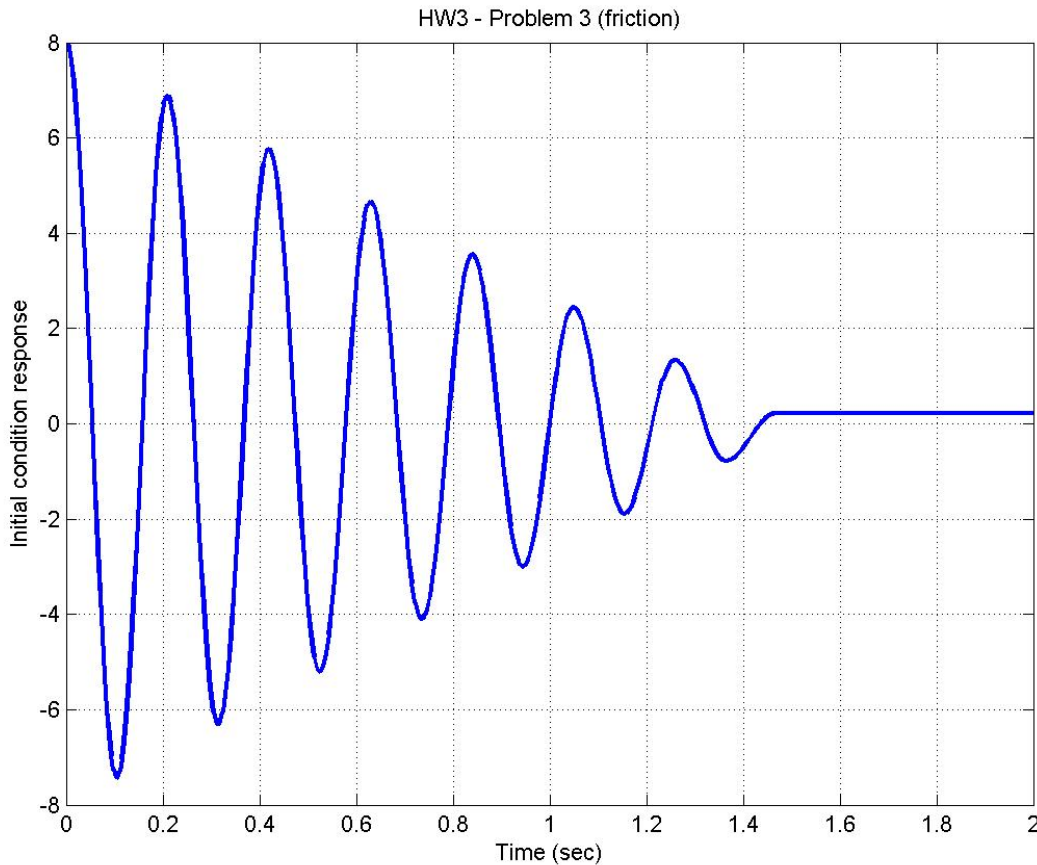

Figure 4b – Step response for a system with Coulomb friction.
b) Figure 4b also shows the step response of a spring-mass system where $m=1\text{kg}$ and $k=900\text{ N/m}$, except here losses are due to nonlinear friction. The equation of motion here is:
c) Note in Figure 4b that the response does NOT come to rest at $x=0$. (The final value on the y axis is offset from 0.) **Explain how this is possible. Will the final value be different, given different initial conditions? Why or why not?**